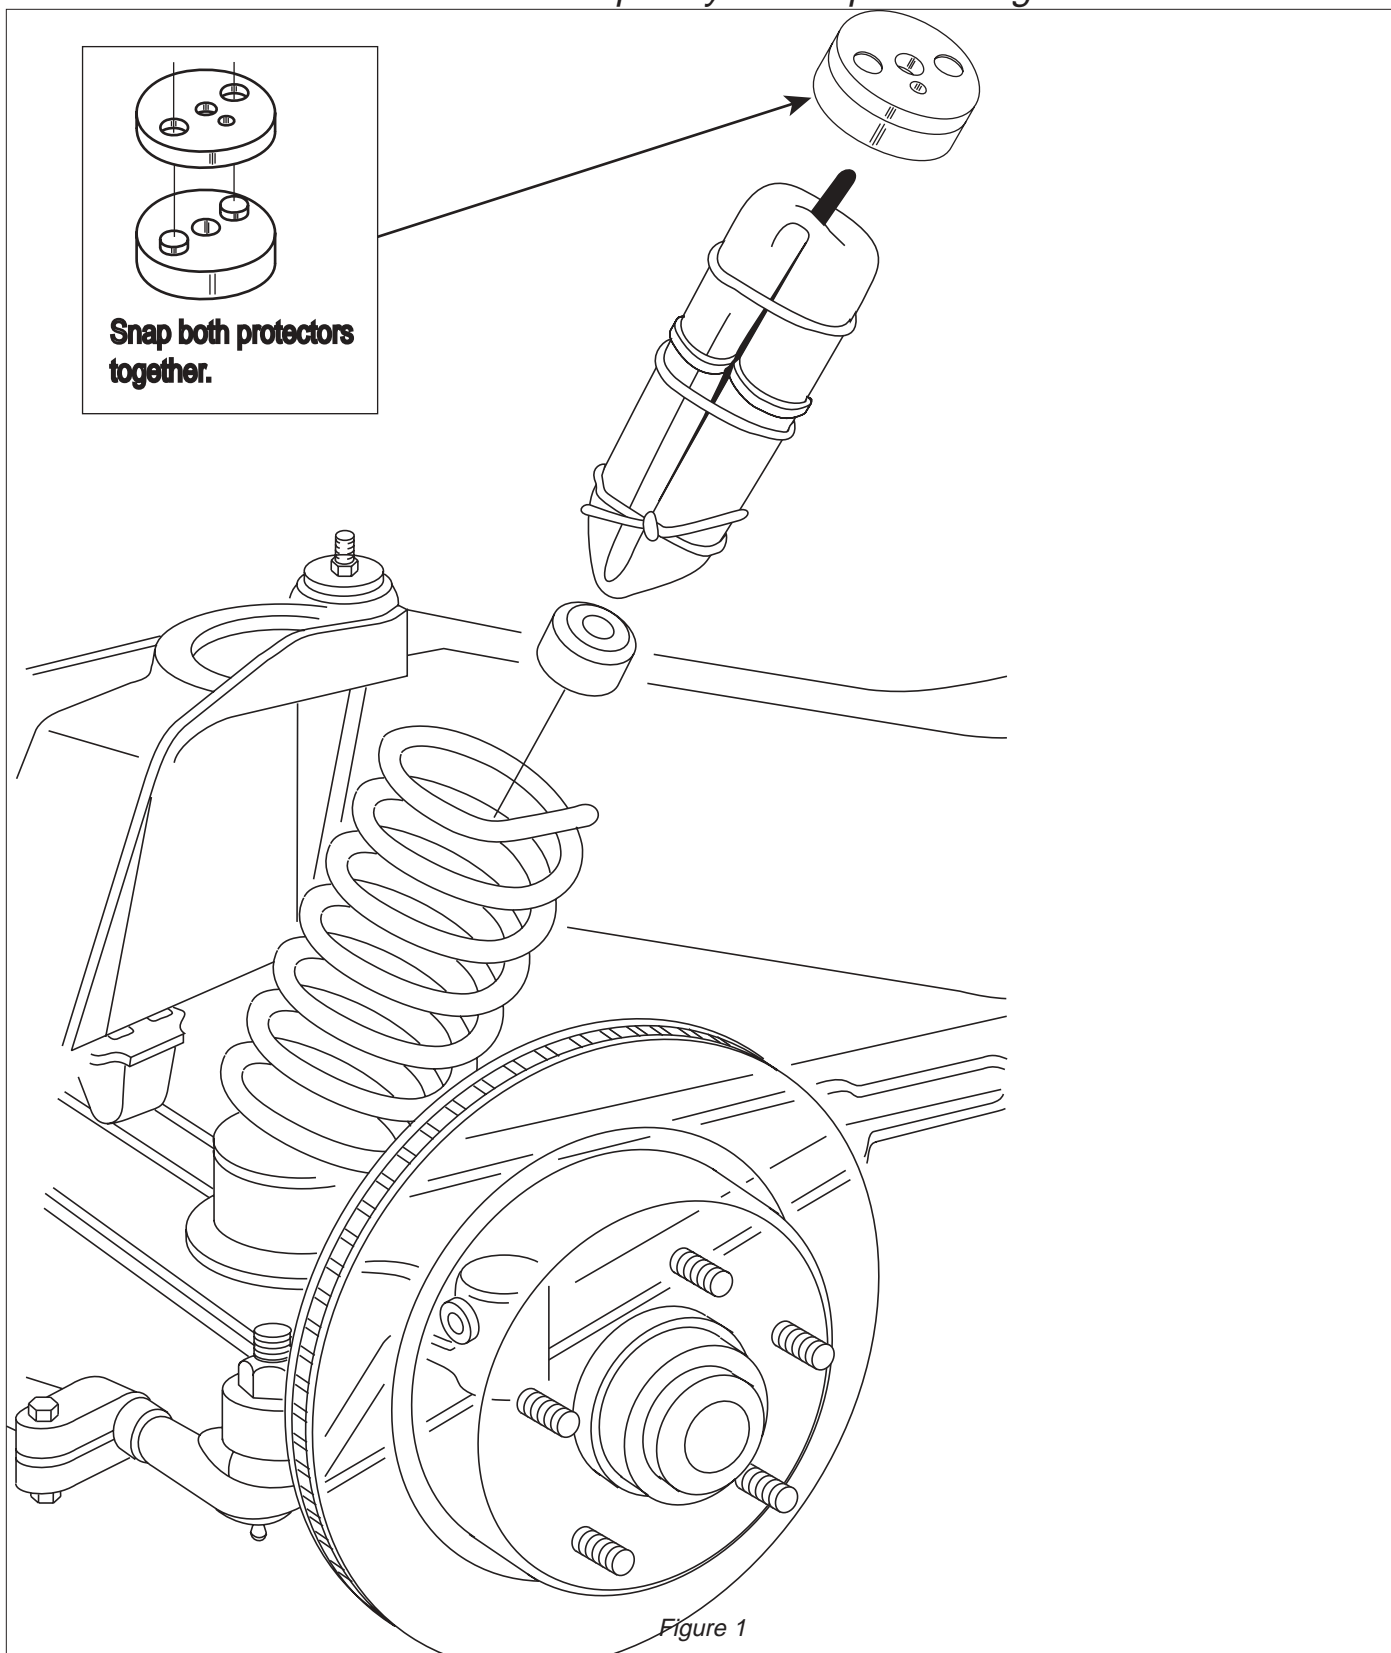

Figure 1
9. Snap the two protectors together (Fig. 1). Attach the hose to the top of the cylinder (as noted in the next section). Route the hose through the center of the two upper protectors and set the protectors onto the cylinder.